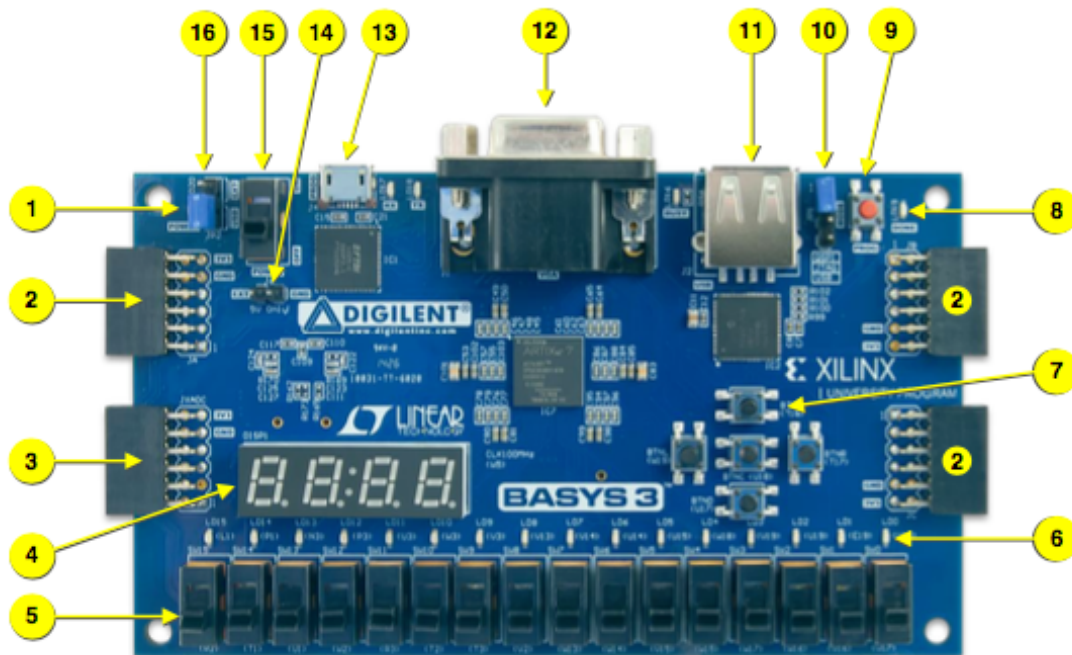

Figure 1. Basys 3 FPGA Board
Basys 3 board is a Field Programmable Gate Array (FPGA) digital circuit development platform that we will use to implement digital circuits in this class, as shown in Figure 1. The board is centered around a Xilinx Artix-7 FPGA chip. It also provides rich I/O resources for users to test/implement a digital device. These include switches, LEDs, pushbuttons, seven-segment displays, VGA output, USB port, etc. The switches and pushbuttons can be used to provide digital input signals and the LEDs can be used to capture the digital outputs. There are also four seven-segment displays (SSDs) for outputs. All these I/O resources are physically connected to the FPGA chip.
- Wait... (this may take a few minutes), when the process is finished, the DONE LED on the FPGA board (  in Figure 1) should be lit;